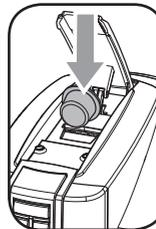

Fig. 2
- 9- Insert the capsule as shown in the figure (Fig. 2).